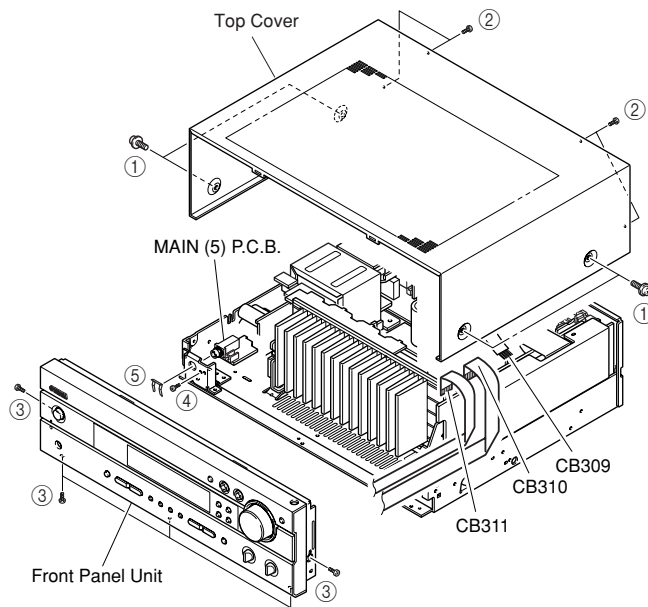

Fig. 1
- Remove 4 screws (1) and 4 screws (2). (Fig. 1)
- Slide the Top Cover rearward to remove it. (Fig. 1)
- Remove 5 screws (3) and then remove the Front Panel Unit. (Fig. 1)
- Remove CB309~311. (Fig. 1)
3. Removal of MAIN (5) P.C.B.
- Remove 1 screw (4) and then remove the Jack Stopper (5) upward. (Fig. 1)
- Remove the MAIN (5) P.C.B.. (Fig. 1)